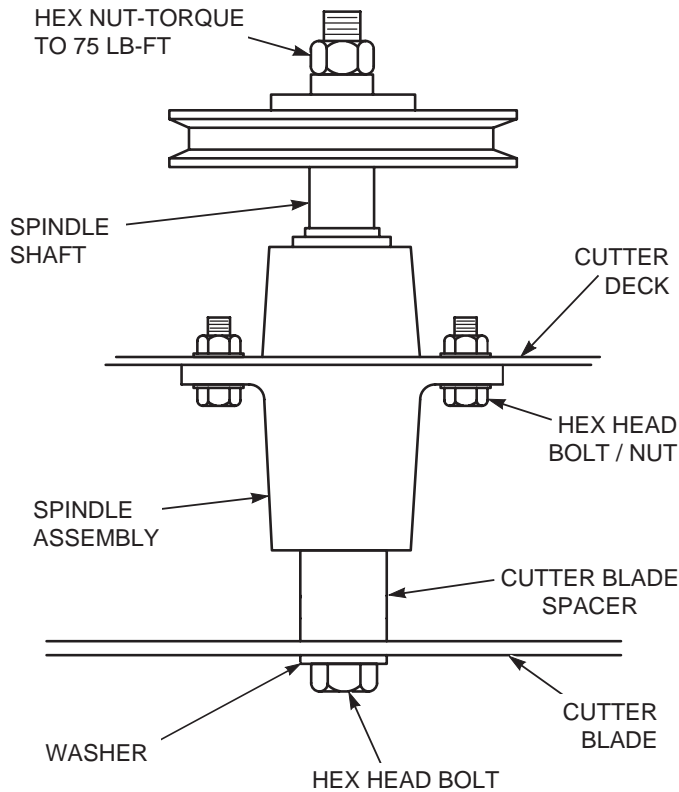

Figure 7-8. Blade Replacement
3. Secure the cutter blades to prevent them from rotating, (use the optional Blade Buddy tool P/N 9212, to assist in securing the cutter blades), remove the nut from the blade attaching bolt. Remove the cutter blade, bolt and spacer from the spindle shaft. See Figure 7-8.
- Install the hex nut to the blade bolt at the top of the cutter spindle. Secure the blades from rotating and torque to 75 ft/lbs. See Figure 7-8.